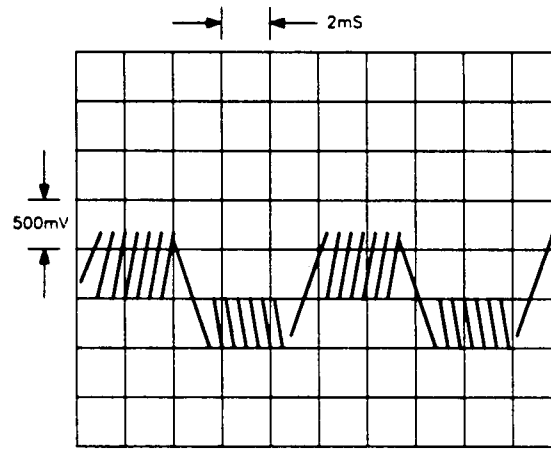

**Figure 10.** Oscilloscope Display of TP3 (dc Coupled), Signal Generator's Frequency 950 MHz, Modulation EXT FM, 5 kHz Deviation (100 Hz Square Wave).
5. Connect the oscilloscope to A3TP3. If the waveform at TP3 is not the same as shown in Figure 10 go to Service Sheet 15.